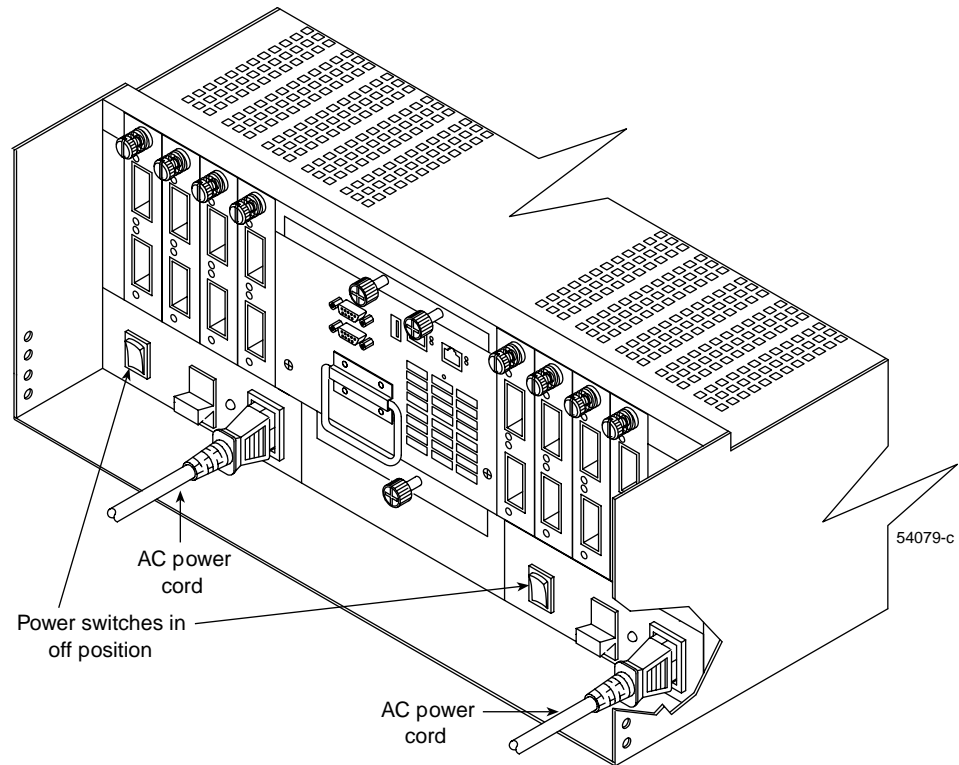

Figure 8-14 Connecting the Power Cords to the Controller Enclosure
3. Plug the controller enclosure power cords into the controller enclosure power supplies (see Figure 8-14).